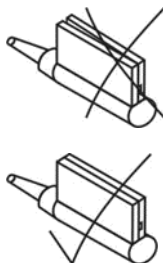

Fig.06
6. Make sure neither the haptic nor the optics is caught in between the shutters (if it happens some gap will be observed between the shutters after closing the cartridge) as shown in Fig.06. If the gap is observed, repeat step no. 3, 4 & 5.